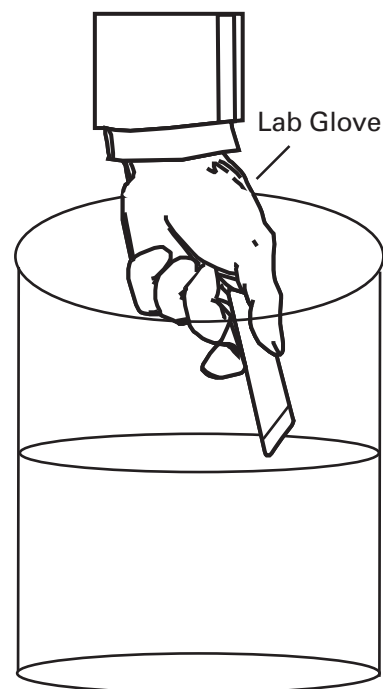

Figure 3
- Wearing lab gloves, you or your teacher should dip the TLC plate into the reagent to immerse it. The plate should be immersed for only a second. See figure 3.